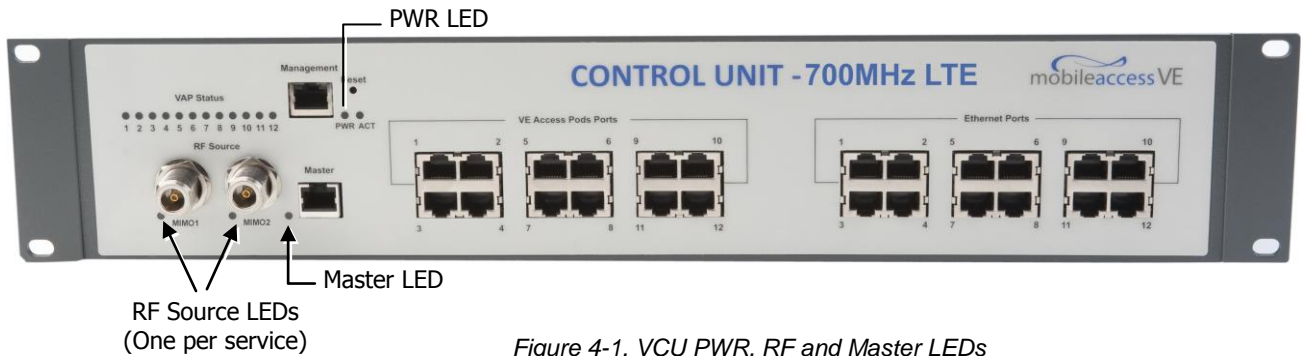

Figure 4-1. VCU PWR, RF and Master LEDs
1. Install the Slave VE Control Unit (VCU) in the IDF/Telco closet corresponding to the floor being covered. The Slave VCU can be installed in the rack using the supplied bracket. Apply power to the Slave VCUs and note that the VCU **PWR** LED is lit. Note that the unit ACT LED completes initialization (solid light) and shows a blinking green light. See Figure 4-1.